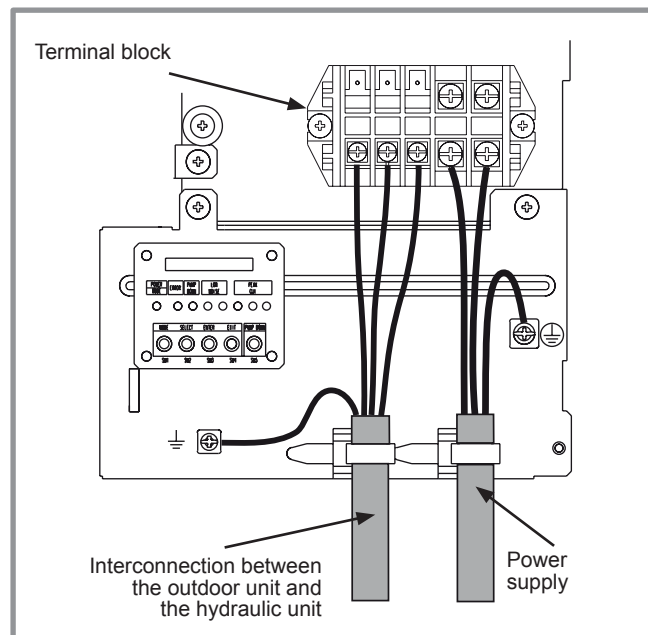

figure 35 - Connections to single phase outdoor unit's terminal block
- Make the connections in accordance with the diagram **figure 35 et figure 43, page 39.**